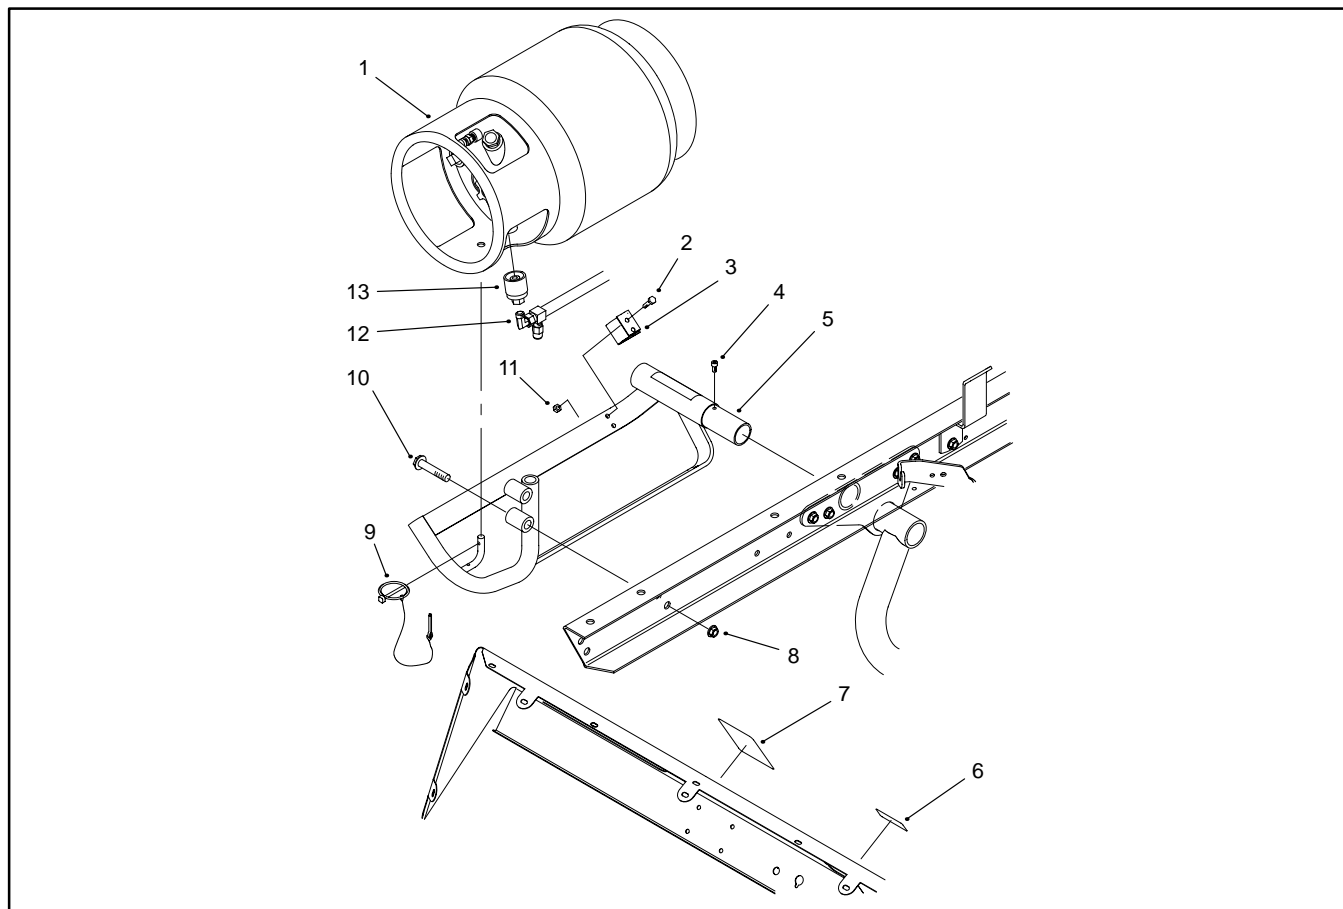

Figure 9
3. Remove component parts as necessary using Figure 9 as a guide.
2. Install component parts as necessary using Figure 9 as a guide.